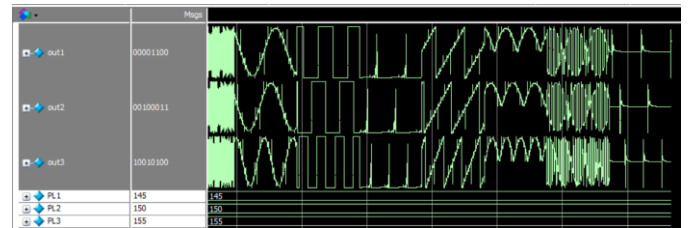

Fig. 9: Simulation result of 3 different units with different parallel loads causing 3 different frequencies.
The unit with least parallel load (145) will have the highest clock period (It takes longer for the counters to reach 255 and for the T Flip Flop to toggle), therefore less number of positive edges in a fixed length of time leading to a lower frequency wave. The unit with highest parallel load (155) will have the lowest clock period, therefore higher number of positive edges in a fixed length of time leading to a higher frequency wave. This is can be validated in Figure 9.